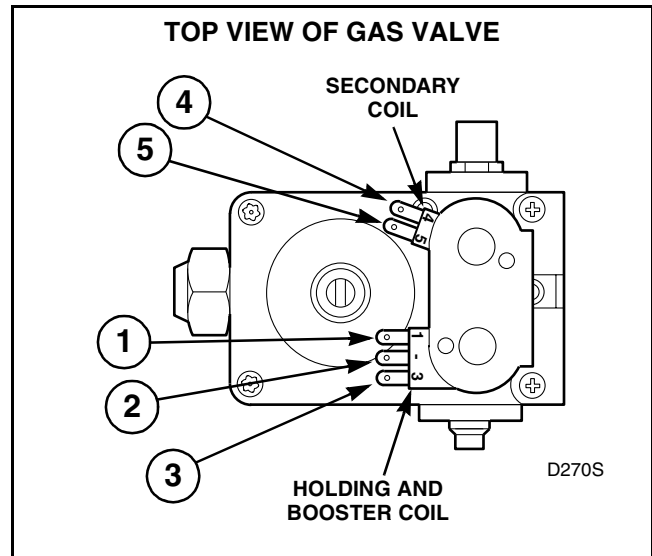

Figure 17
2. Set test meter to read OHMS and put meter probes to terminals as follows: (Refer to *Figure 17*.)